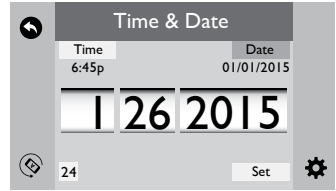

Figure 12.8d
3. Tap **Date** to program the date, Figure 12.8d.
5. The default time setting is a 12-hour configuration. To choose the 24-hour configuration, then tap **24**, Figure 12.8d, to change the setting.